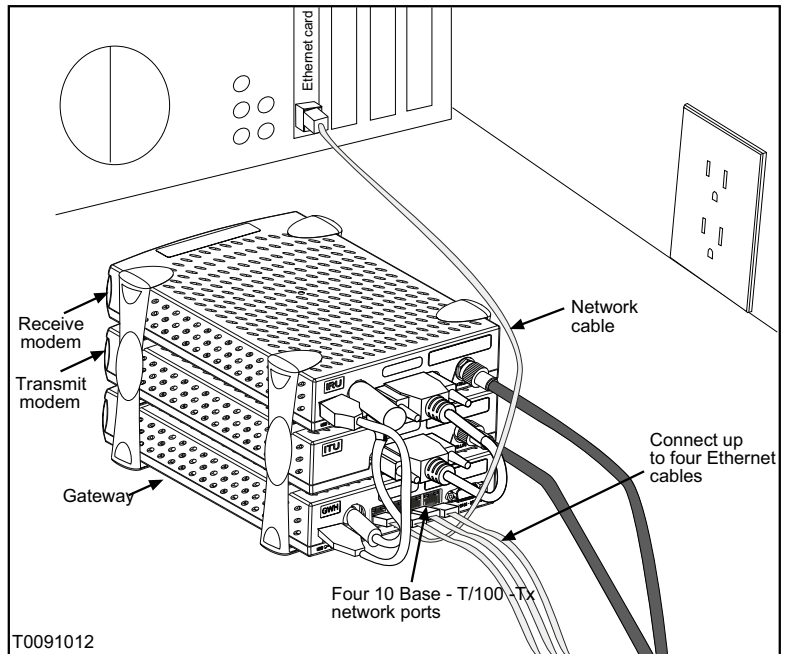

Figure 60: Attach network cables
8. Connect up to four Ethernet cables to the network ports on the Gateway (see Figure 60). Either a straight-through or a cross-over Ethernet cable can be used. The four ports labeled 1 through 4 are Ethernet 10 Base - T/100 network ports. They enable you to connect to other computers via an Ethernet connection. (Reference UL 60950, Annex NAA, Subclause reference 6, page 322.)